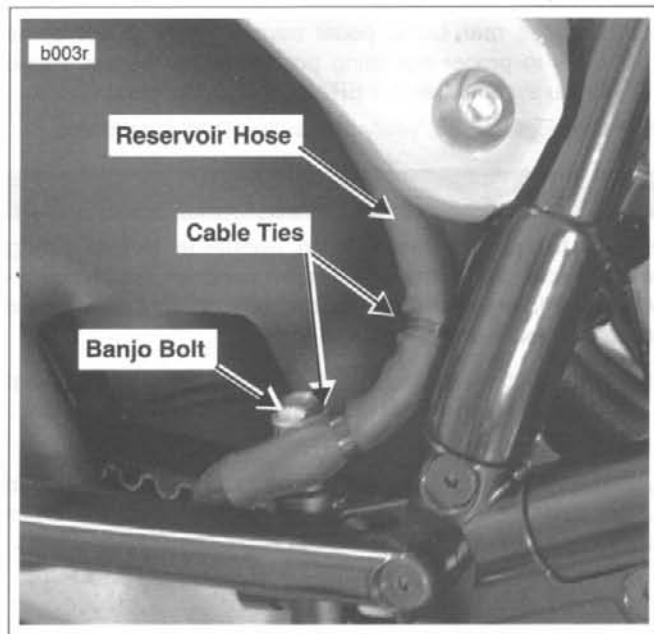

Figure 2-89. Rear Master Cylinder Banjo Bolt
7. See Figure 2-89. Cut two cable ties holding rear brake reservoir hose to rear brake line above rear master cylinder on right side of motorcycle.
- See Figure 2-89. Install two cable ties (thick) to reservoir hose and rear brake line in **two** locations as shown in figure. Use care to avoid pinching hose.